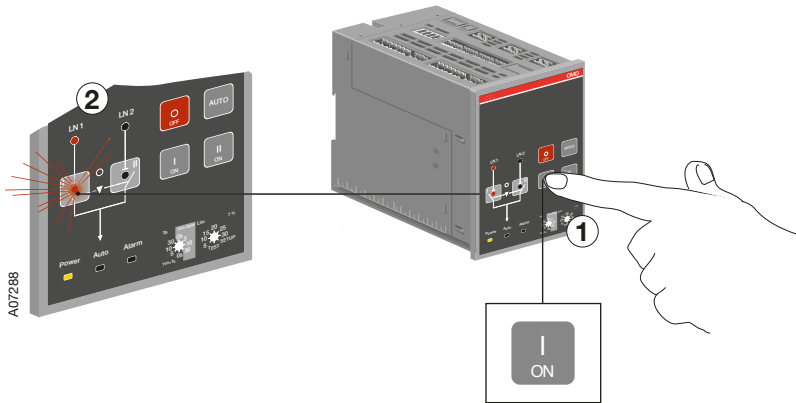

Figure 6.2 Selecting the switch to operate, the switch status and the chosen line indication with LEDs in OMD200 or OMD300
- When pushing the I-key (see the Figure 6.2/①, the I-switch will be in the ON position (the status and the line indication, see the Figure 6.2/②) and the II-switch will be in the OFF position. If the I-switch is already in the ON position, pushing the I-key does not have any influence.